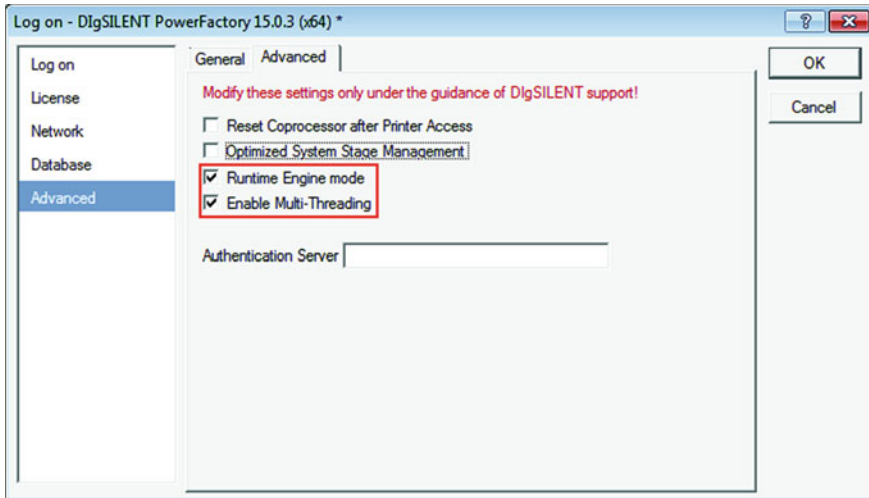

Fig. 16.7 Configuring PowerFactory using its log-on screen
- When the log-on screen appears, click “*Advanced*” from the list as shown in the Fig. 16.7.
- Check “*Runtime Engine Mode*” and “*Multi-threading*” options to enable them as depicted in Fig. 16.7.